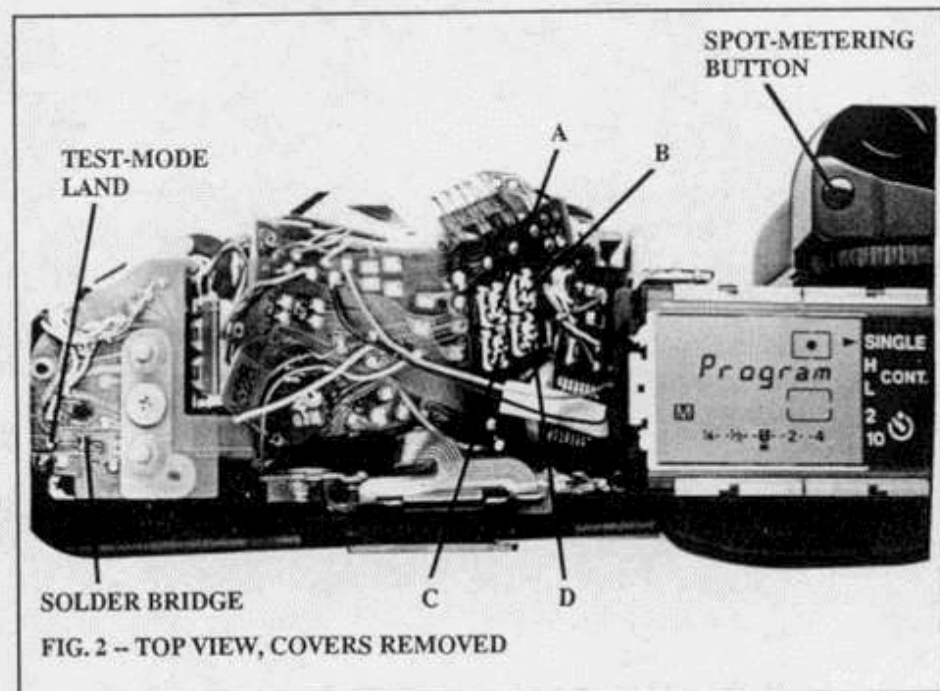

FIG. 2 -- TOP VIEW, COVERS REMOVED
- Fig. 2 -- top view, covers removed
(1) Remove the solder bridge, Fig. 2 (disconnects pin 48 of IC5 from ground).
(2) Connect a jumper wire between the test-mode land, Fig. 2, and the E1 land on the FD-connecting flex (rewind side of pentaprism, lower section of main flex -- Fig. 28 shows both the test-mode land and the E1 land on the FD flex). With E1 supplied to the test-mode land (pin 48 of IC5), the camera is in the test mode.
(5) Check in spot mode (03) at EV12, top cover temporarily installed. Adjust VR2 (A in Fig. 2) until the AR1 LEDs, Fig. 24, read d2.
(6) Set partial mode (02). Check at EV12, top cover temporarily installed. Adjust VR3 (C in Fig. 2) until the AR1 LEDs, Fig. 24, read d0.
(7) Set average mode (01). Check at EV12, top cover temporarily installed. Adjust VR4 (B in Fig. 2) until the AR1 LEDs, Fig. 24, read CE.
(8) Set partial mode (02). Check at EV6, top cover temporarily in-
stalled. Adjust the gain (D in Fig. 2) until the AR2 LEDs read 68.